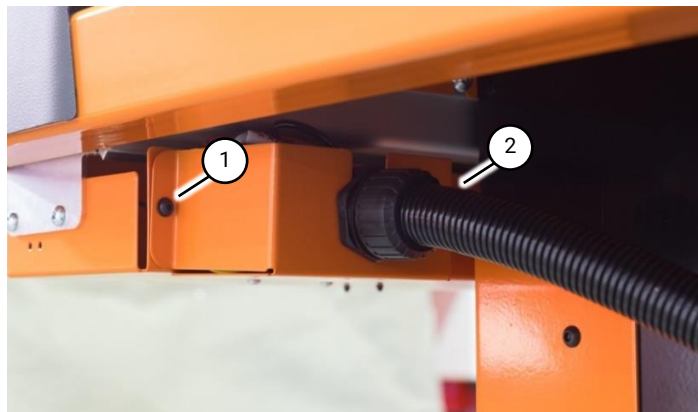

Fig 19 Securing the wire cover
2. Secure the wire cover with the screws provided in the fixings kit (Fig 19 (1) & (2)).